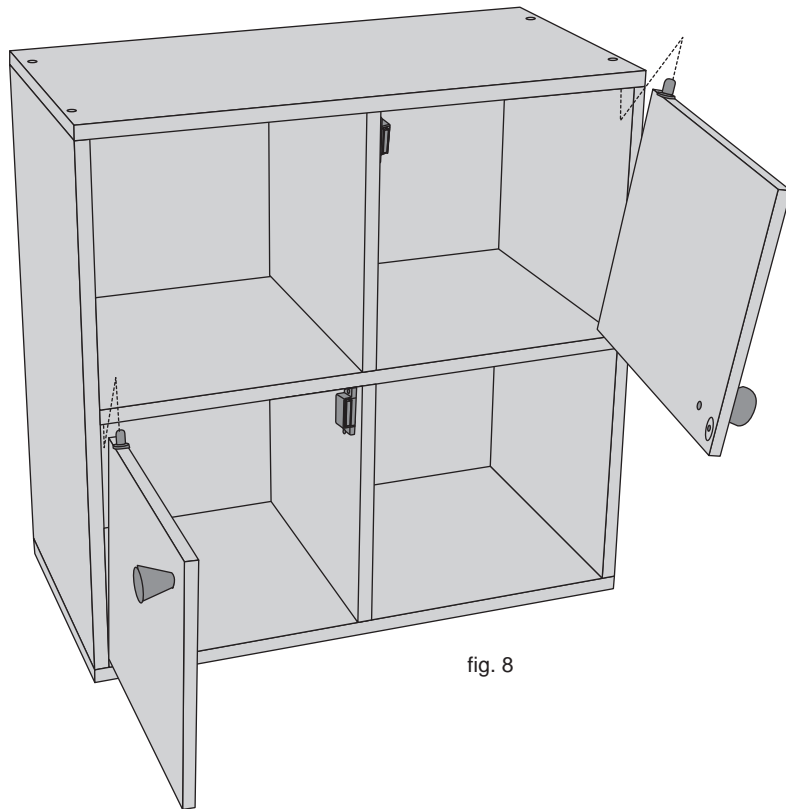

fig. 8
See fig. 8.
1. Carefully place the Doors Hinges into the lower hinge holes. Then depress the moveable hinge and slide into unit to make connection with upper hinge holes. See fig. 8.